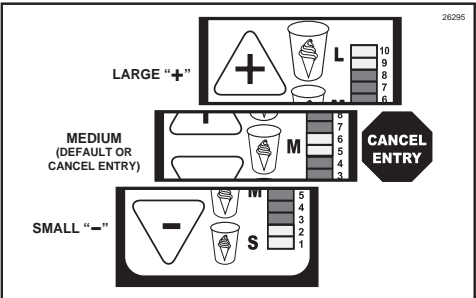

Figure 193
1. To adjust the small serving, press the “-” key. To adjust the large serving, press the “+” key. Two lights illuminate beside the size that is selected. The medium serving is the default serving size; if the size is not illuminated, press CANCEL ENTRY to return to the default medium setting. (See Figure 193.)